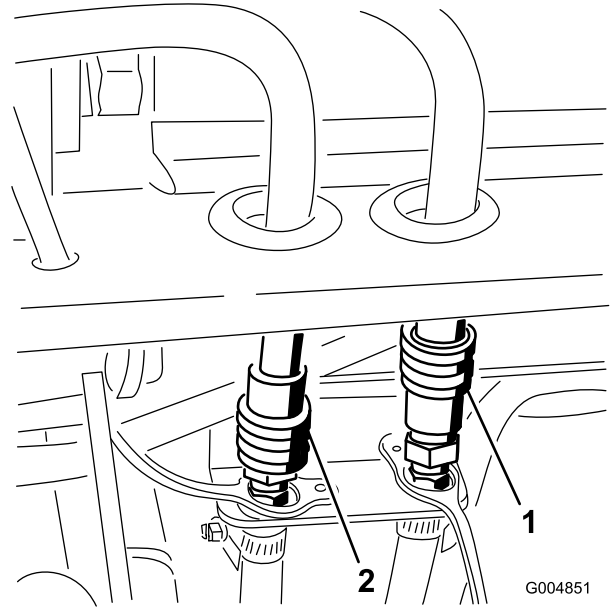

Figure 78
18. Disconnect the pressure and return quick coupler hoses from the cab (Figure 78). Plug the couplers into each other to keep clean. Install the cap and dust covers onto the quick couplers on the machine. Make sure all connectors are clean before making connections.